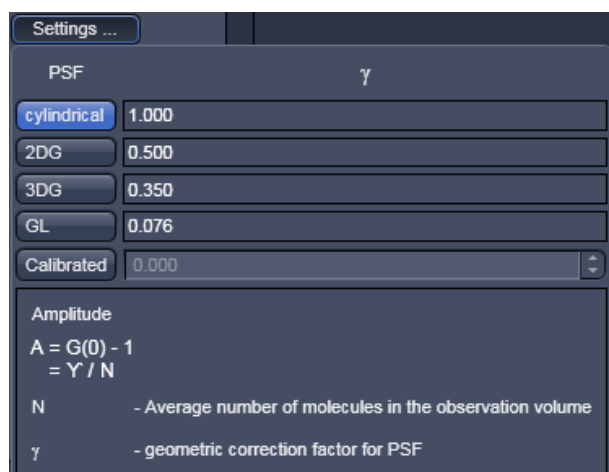

Fig. 278 Amplitude Settings panel
- You can set a value for the geometric factor  $\gamma$ , which describes the point-spread function (Fig. 278).
- By pressing the **cylindrical**, **2DG**, **3DG** and **GL** buttons you can select a cylindrical, 2 dimensional Gaussian, 3 dimensional Gaussian (3DG) and Gaussian-Lorentzian (GL) PSF, respectively. If you press the Calibrate button, you can type in a user defined number in selection box or use the arrows to set a value.